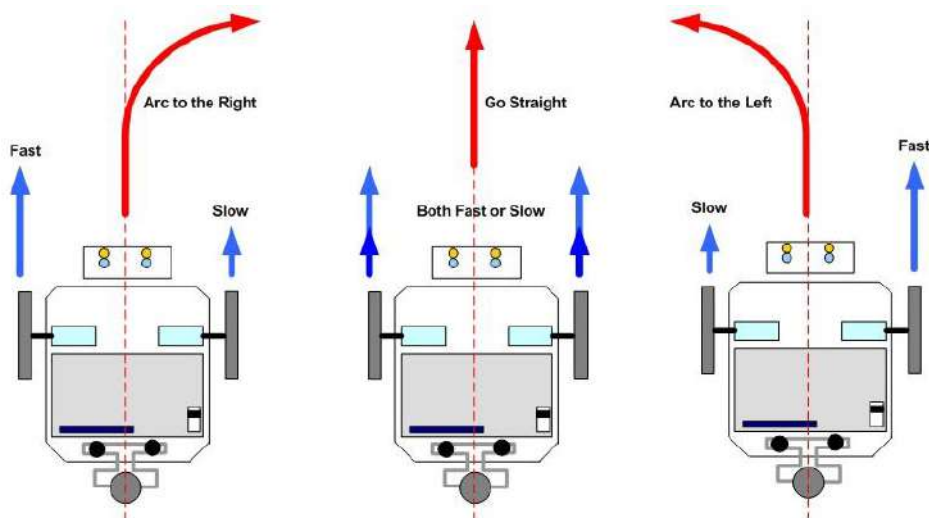
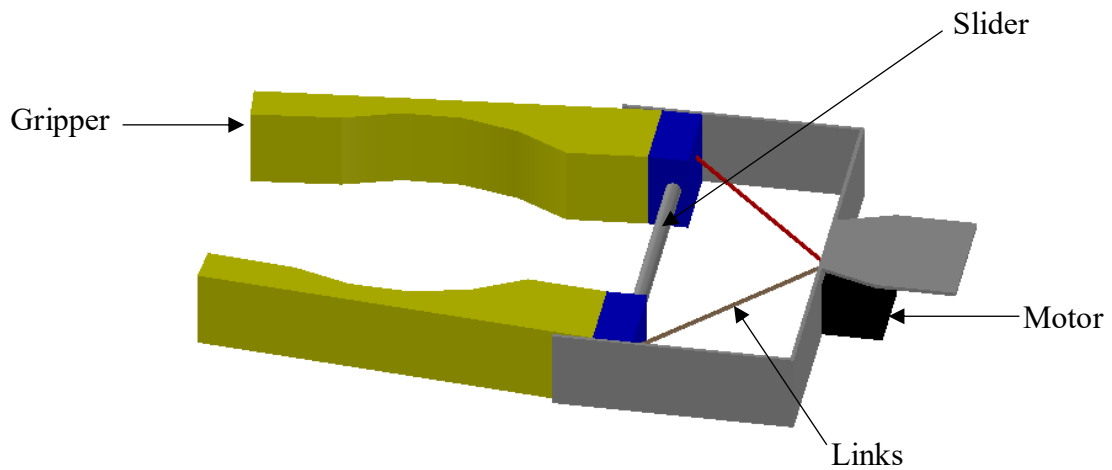

Figure 1: An example of how to make the robot turn.
Figure 2: An example of a possible gripper design
- The robot **may use wheels**. An example using two wheels *Figure 1*.
- Sensor module (IR), Colour sensors
- The gripper should conform to the specifications given in *Figure 2*.